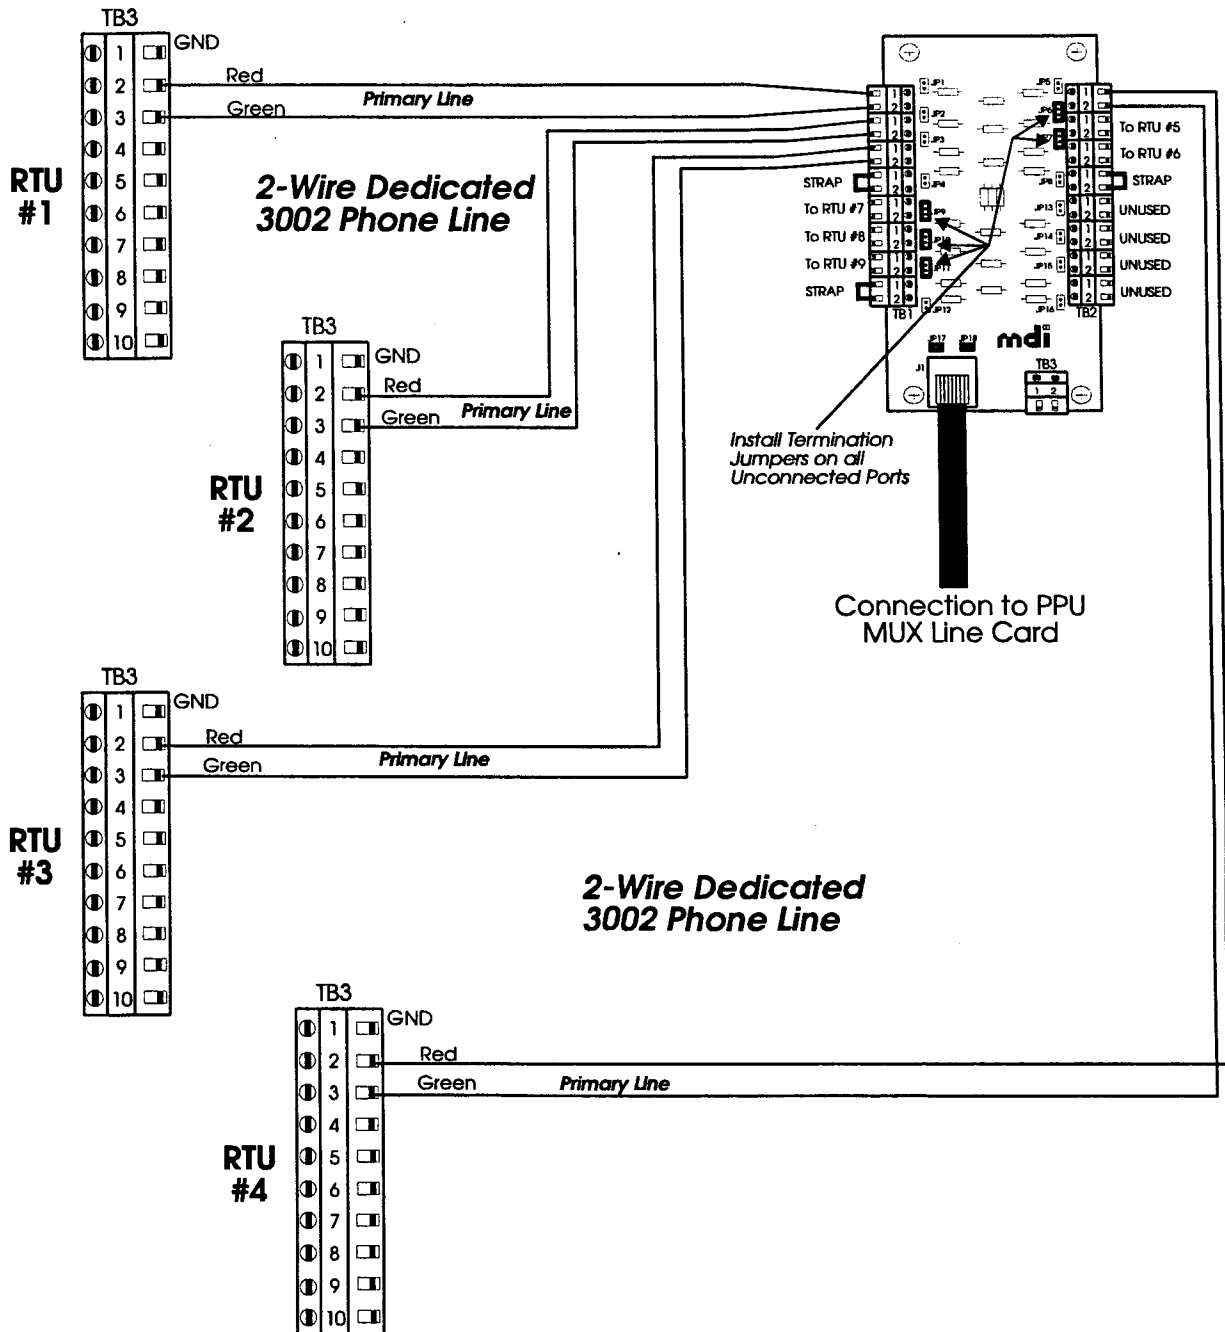
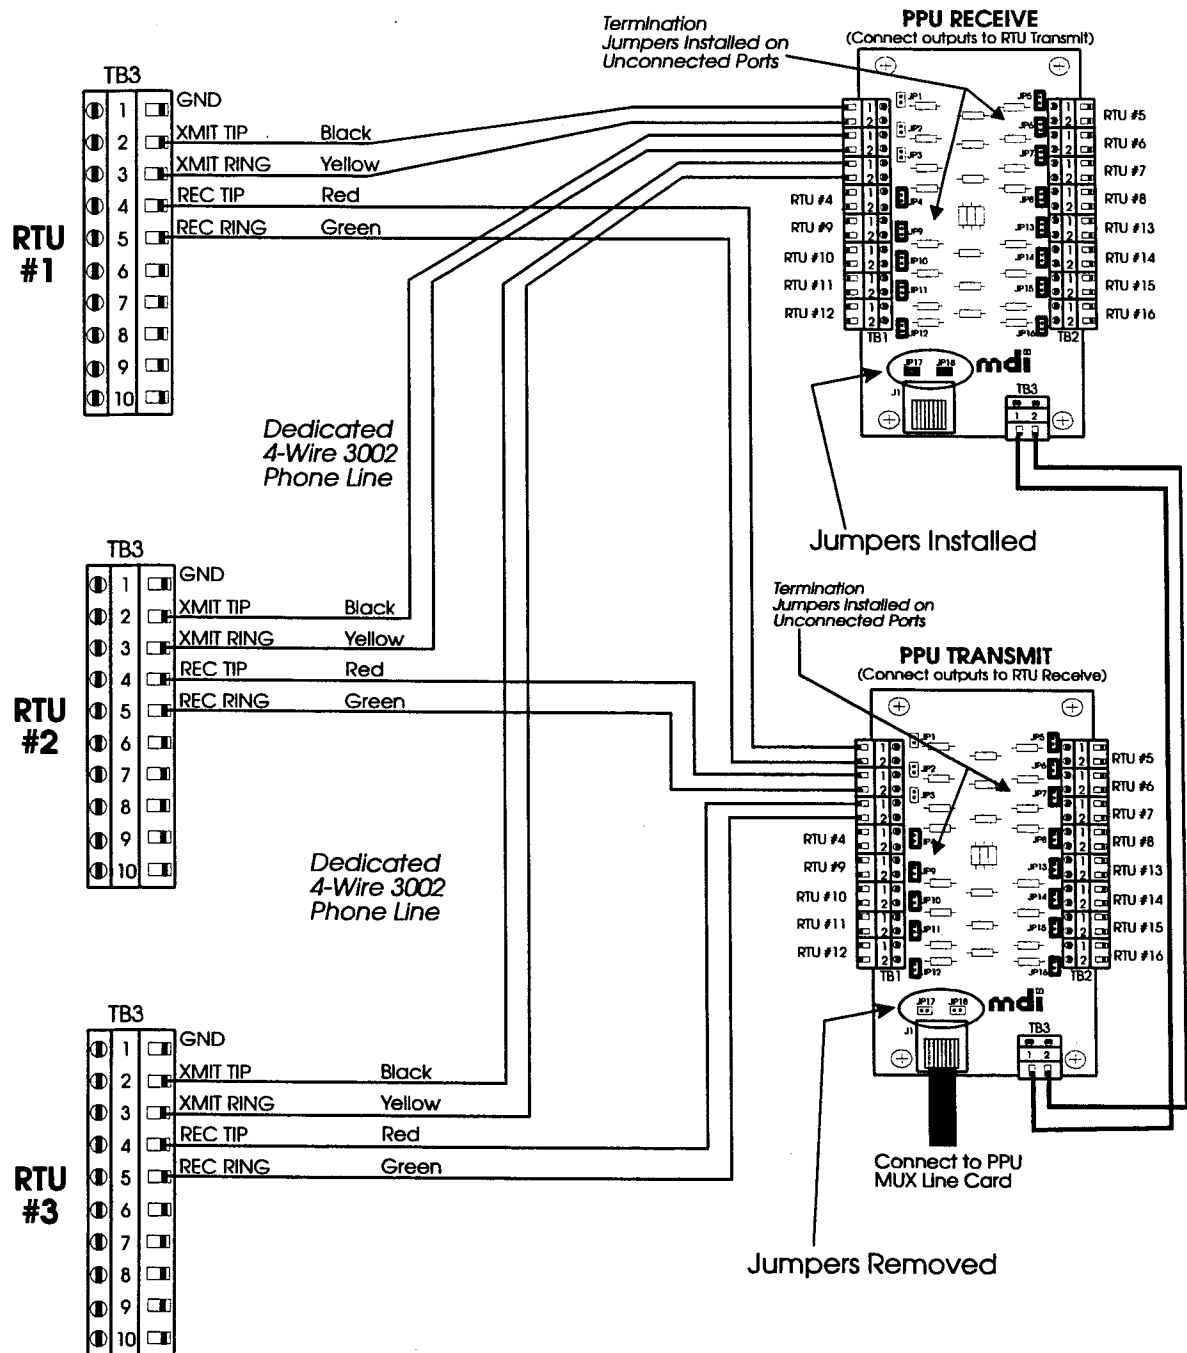

Figure 3-19. MULTIPLE RTU CONNECTIONS, 2-WIRE MUX LINE
Figure 3-20. MULTIPLE RTU CONNECTIONS, 4-WIRE MUX LINE
Figures 3-19 and 3-20 on the following pages show examples of the communication line connections from multiple RTU panels to the Passive Matrix Bridge modules. Figure 3-19 shows a 2-Wire communication line and Figure 3-20 shows a 4-Wire configuration.
- A. ACT Reader Wiring Schemes - The MDI ACT Series of card readers, card reader interface modules, and arming stations, such as the ACT-4, ACT-5, ACT-D and ACT-E, communicate to the RTU via FIM boards (with exception of the ACT-3, which uses the CIM). This FIM communication interface is serial RS-485, which allows for multidrop connections. The FIM board provides up to four (4) serial communication ports, and there are four (4) different wiring schemes used to interface the readers and reader modules back to the RTU, which are set by jumpers JP4 (see figure 3-20). These jumpers set the wiring connection scheme to be used so that the Processor is able to poll and interpret messages from the ACT units properly. Diagrams of the different schemes are shown in Figure 3-49.